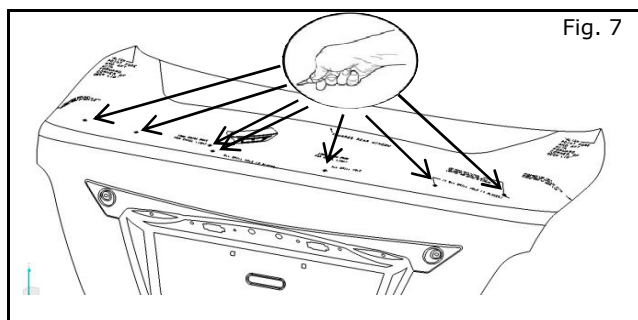

Fig. 7
- c) Locate the punch marks in the center of the printed hole locations. (Fig. 7) A light, quick impact on the center punch is recommended to prevent a deep dent on the trunk lid. Seven (7) places total.